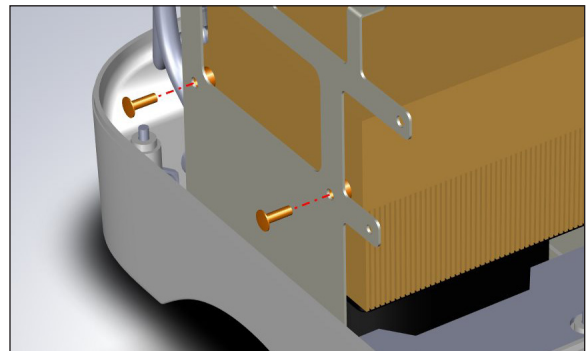

Figure 126 - Step 5 Remove screws and plastic spacers
5. Remove two Phillips screws and the plastic spacers that attach the TE module on the front bracket (Figure 126). **Note:** Some ECII units do not have the plastic spacers.